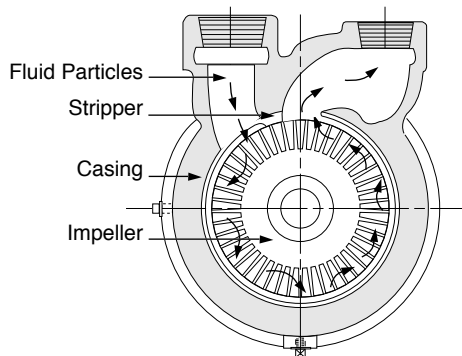

FIGURE 7. Turbine Pump
- Liquid entering the channel from the inlet is picked up immediately by the vanes on both sides of the impeller and pumped through the channel by the shearing action. The process is repeated over and over with each pass imparting more energy until the liquid is discharged (Figure 7).